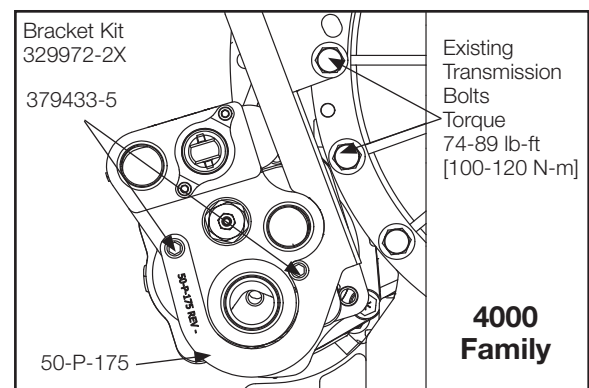
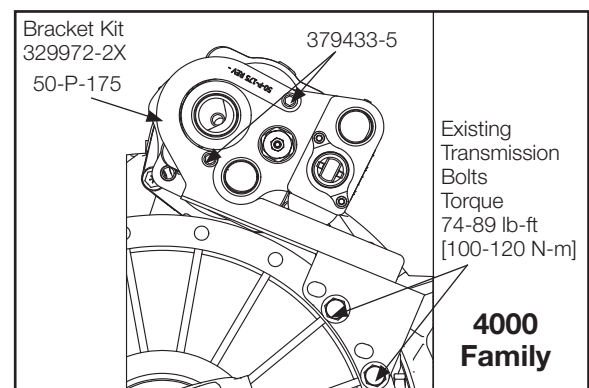

Figure 12
Figure 13
2. Install bracket to transmission using the existing transmission bolts in approved locations (**Fig. 12**) and (**Fig. 13**). Slightly tighten, but do not fully torque to allow alignment of all mounting holes.